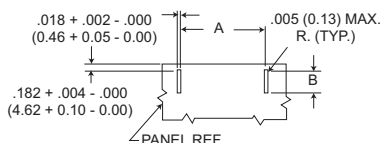

Figure 4
3. Figure 4 is for edge board mounting bracket or edgeboard clip assembly. The .184 ± .002 (2.67 ± .05) dimension locates the MD socket insulator flush with the end of the board.